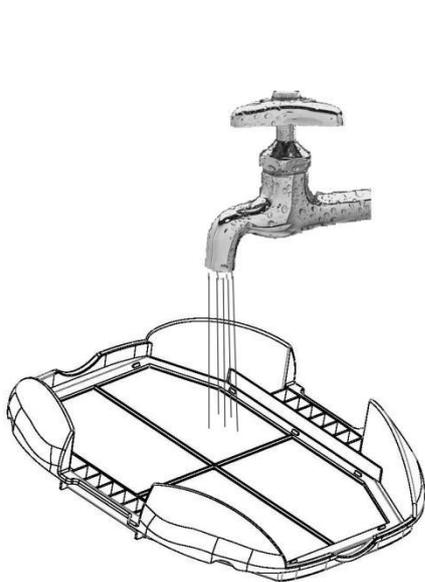

Fig. 5-11
5.5.3 Clean the filter tray (Fig. 5-11, 5-12)